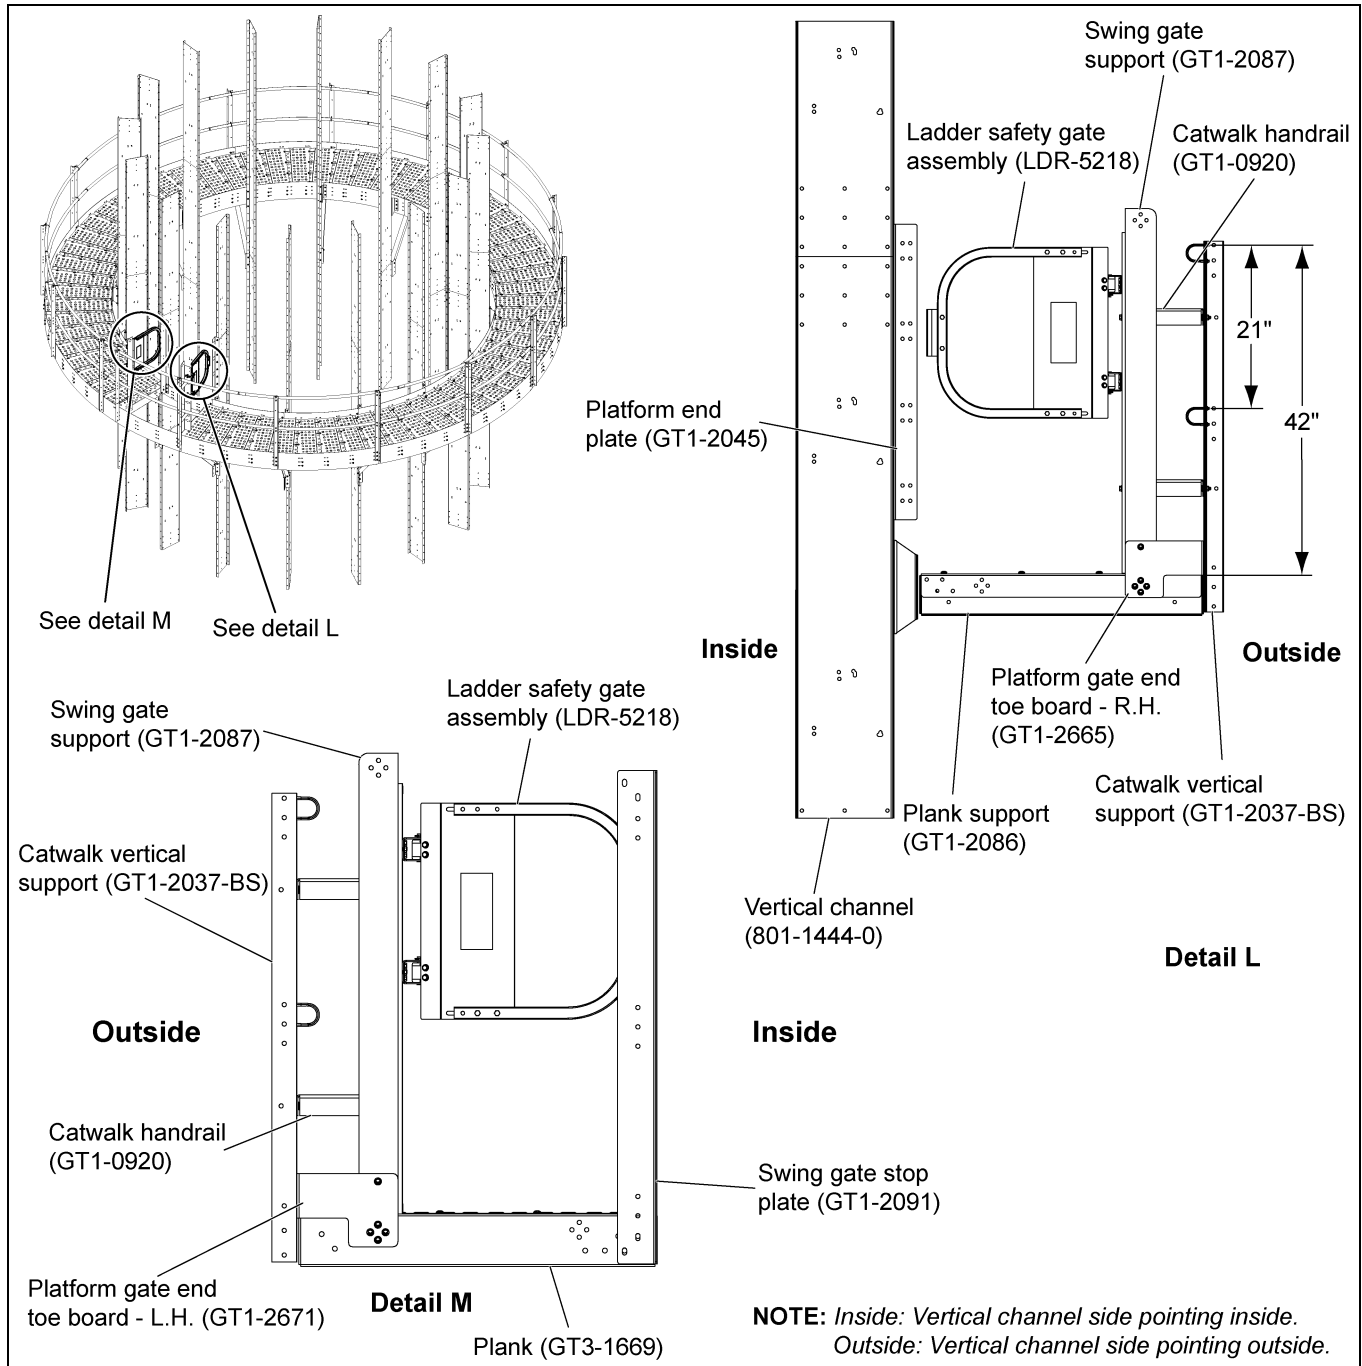

Figure 4Y
1. Install the ladder safety gate assembly (LDR-5218) to the swing gate support (GT1-2087) using 3/8"-16 x 1" JS grade 8 or grade 8.2 bolts (S-7485) and 3/8"-16 ZN grade 5 nuts (S-968). (See detail L in Figure 4Y.)
2. Install the ladder safety gate (LDR-5218) to the swing gate support (GT1-2087) and attach the stop plate (GT1-2091) to the ladder opening toe board (GT1-2659) and the plank (GT3-1669) using 3/8"-16 x 1" JS grade 8 or grade 8.2 bolts (S-7485) and 3/8"-16 ZN grade 5 nuts (S-968). (See detail M in Figure 4Y.) The distance between the plank and handrail is 42".